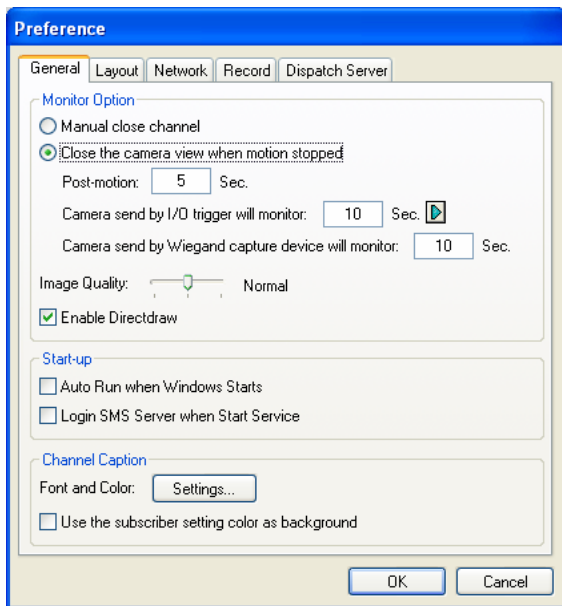

Figure 1-11
4. On the Center V2 window, click the **Preference Setting** button (No. 10, Figure 1-1) and select **System Configure**. The Preference dialog box (see Figure 1-11) appears.